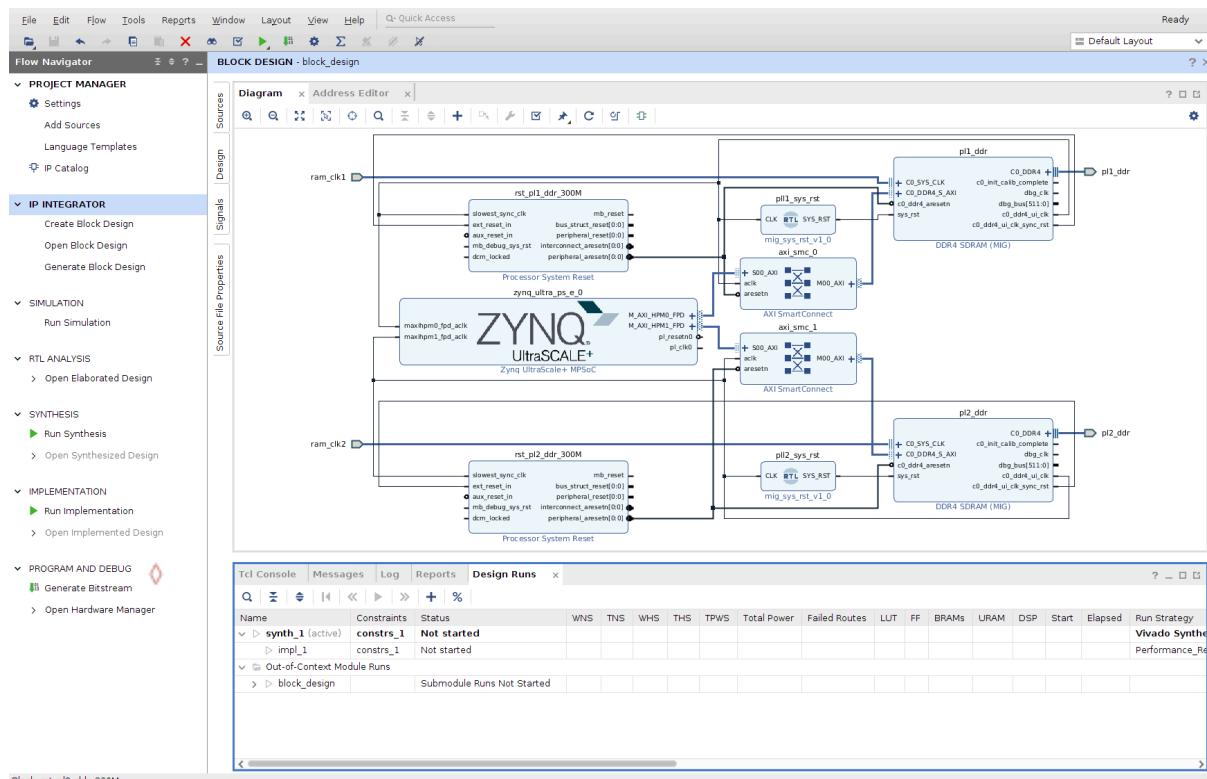

Figure 4. MIG project and block design
The project *mig* instantiates 2 DDR4 controllers on PL and the PS DDR4 connected directly to the Zynq PS, as can be seen on Figure 4. The three DDR4 SDRAM are configured to use the default address of their interface.
4. “Generate Bitstream” (see △ mark on Figure 4) and wait for process to finish.